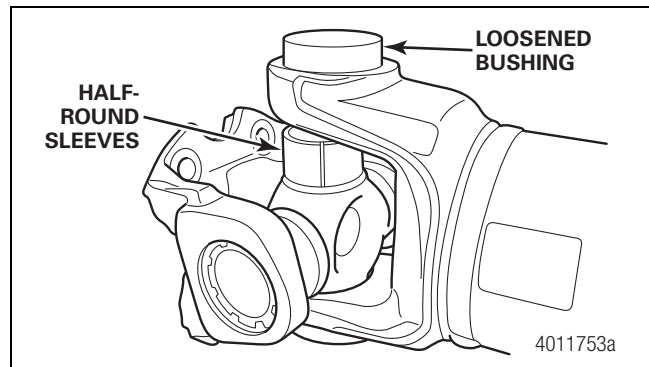

Figure 4.53
11. Install the half-round sleeves on the radius of the top trunnion. Figure 4.53.